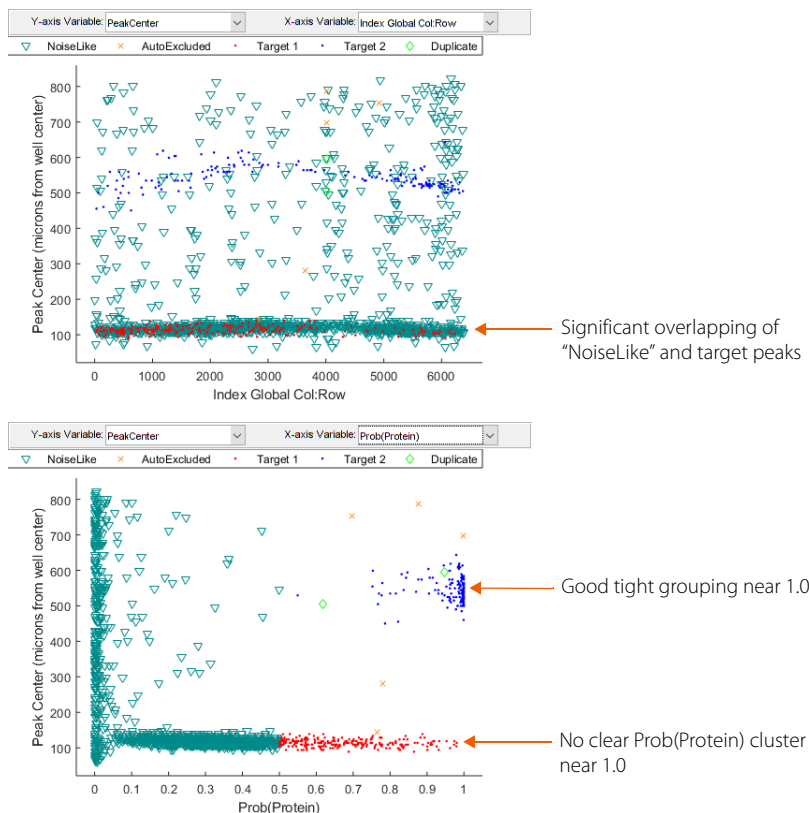

Figure 4-17: Plot PeakCenter vs. Prob(Protein) in the Peak Table to troubleshoot the neural net filter.
If you see a significant number of “NoiseLike” peaks clustered with target peaks after running Auto Tag with the Neural net filter (Figure 4-17, top), you can plot PeakCenter vs. Prob(Protein) in the Peak Table to determine how well the filter is working.
- A tight grouping near Prob(Protein) = 1.0 indicates the neural net filter is working (Figure 4-17, bottom, blue peaks).
- If no clear grouping by Prob(Protein) is observed, the neural net filter isn’t recognizing your peak shape (Figure 4-17, bottom, teal and red peaks). In this case, rerun Auto Tag without the neural net filter selected, and/or use manual peak curation methods instead.